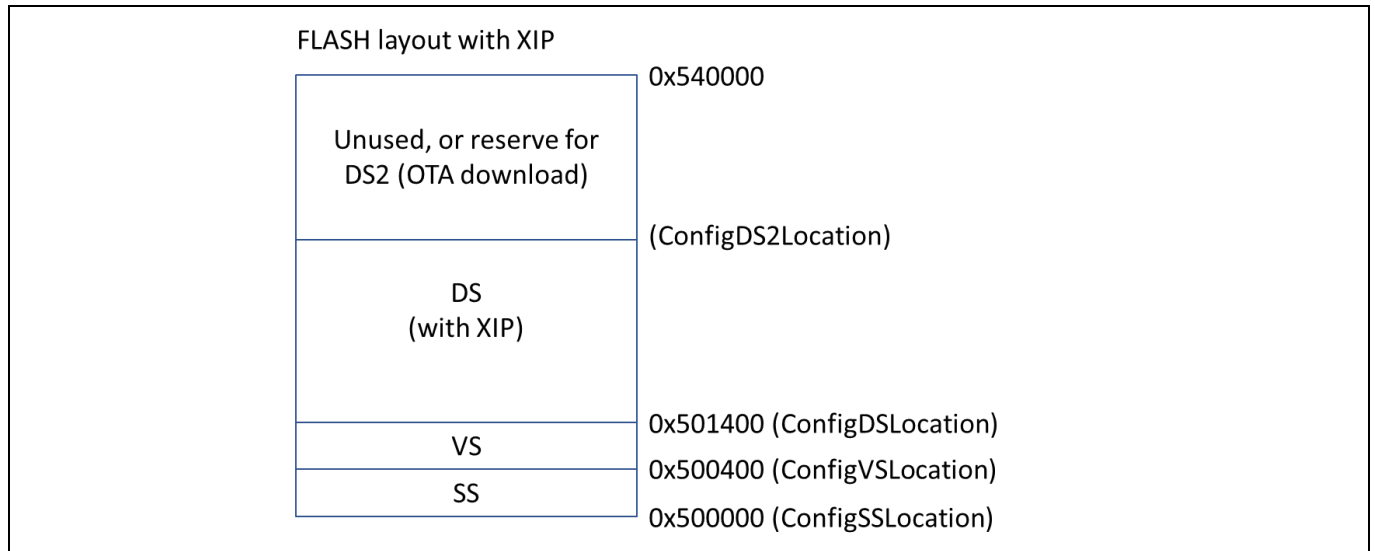

Figure 1 Typical 208XX flash layout with XIP image
The flash start address to place the XIP section is calculated by adding `CY_CORE_APP_SPECIFIC_DS_LEN` (default set in `<TARGET>.mk`) to `ConfigDSLocation`, from the platform `btp` file found in the platform folder `wiced_btSDK/dev-kit/baselib/<device>/platforms`. Currently, the `CY_CORE_APP_SPECIFIC_DS_LEN` value is set to a minimal offset of 0x80 (128) bytes. This allows just enough room for some required early DS configuration records. It is not recommended to modify this. The XIP itself occupies a special DS configuration record and is part of the DS Section as shown in Figure 1. Other DS configuration records follow the XIP record to make up the rest of the DS section.